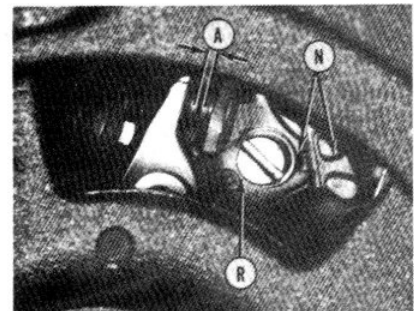
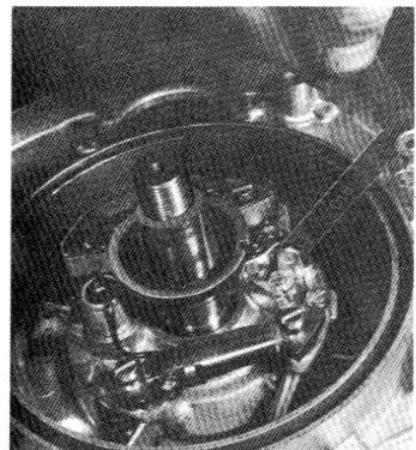

Fig. 8—Ignition points viewed through flywheel opening
Fig. 9—On some engines, breaker cam can be removed from flywheel and positioned over crankshaft for point adjustment.
**BREAKER POINTS.** On some units, breaker points can be inspected and adjusted through a flywheel window as shown in Fig. 8 but, although an inspection window is present on most models, accurate adjustment is not always possible. Flywheel must usually be removed for renewal of parts.
On most models with automatic timing advance, the breaker cam can be quickly removed from flywheel and temporarily installed on crankshaft for point adjustment as shown in Fig. 9. Use a clean greaseless feeler gage for checking the gap and be sure points are not pitted. Contact surfaces must seat squarely and properly align when points are closed. Loosen retaining screw (R—Fig. 8) and insert a blade screwdriver in notches (N) to make the adjustment. Recheck gap after retaining screw (R) is tightened.